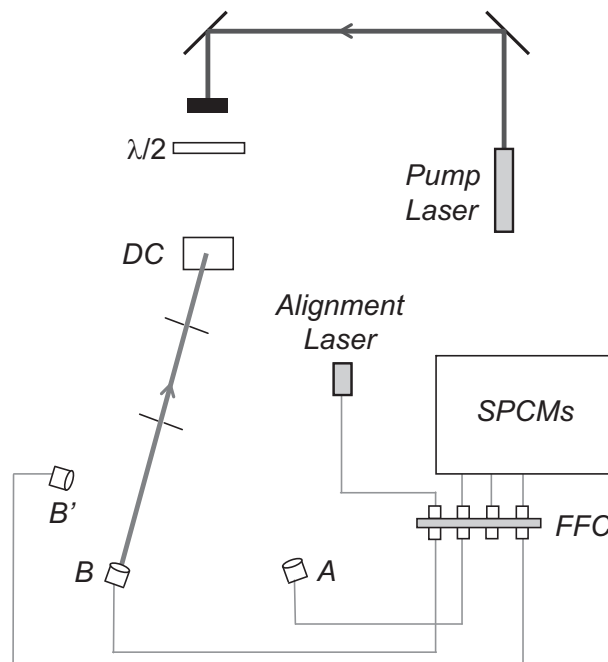

Fig L2.3 Aligning the irises.
- The fiber from the **B** collection optics leads to a fiber-fiber connector, where it joins another fiber which leads to the filters and a SPCM. Unscrew the fiber coming from the **B** collection optics, and connect it instead to the fiber leading from the alignment laser, as shown in fig. L2.3. **Take care when you do this.**
- Turn on the alignment laser. Light from this laser will shine backward through the **B**-fiber, and emerge as a collimated beam from the fiber-coupling lens attached to the end of the fiber, see fig. L2.3.⁵ The laser light appears dim because it is at a wavelength your eye is not very sensitive to. If you stick white paper in the beam you should be able to see it with the room lights out. You should be able to see it very brightly using a CCD camera and monitor. If the laser light is not shining onto the downconversion crystal, detector-**B** is not properly aligned, and you'll need to complete this alignment (see lab 1) before continuing.